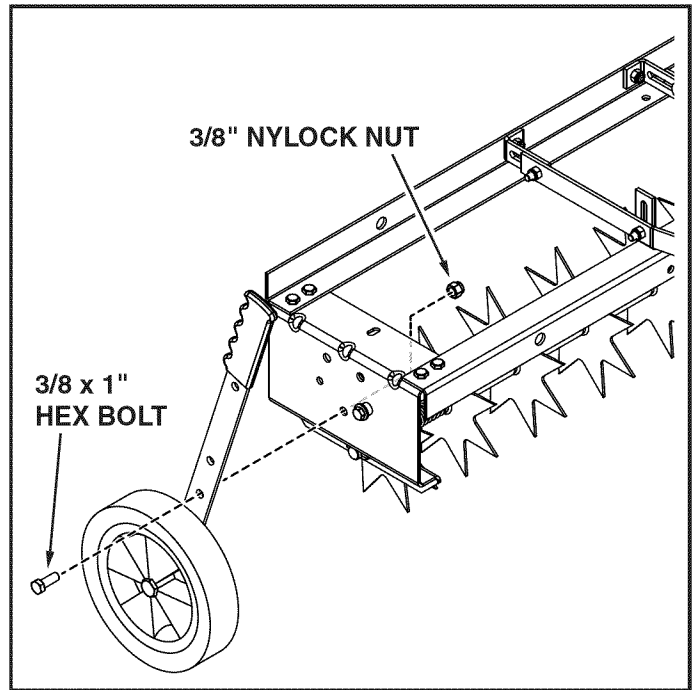

FIGURE 11
- Attach each handle to the bottom hole in the end plate using a 3/8" hex bolt and 3/8" nylock nut. Tighten so that the handle is secure but can still move freely. See figure 11.